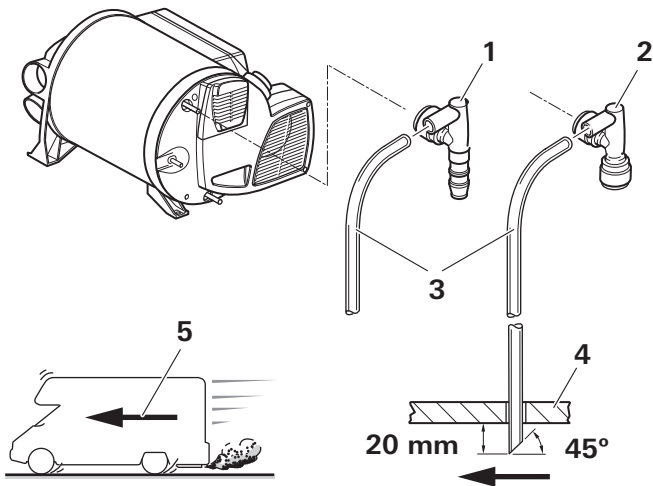

Fig. 35
- ▶ Feed the venting hose through a drilled hole in the floor of the vehicle and cut it at a 45° angle to the driving direction approximately 20 mm below the floor (Fig. 35).
- ▶ Seal the gap between the hose and the hole with plastic body sealant from below (Fig. 35).